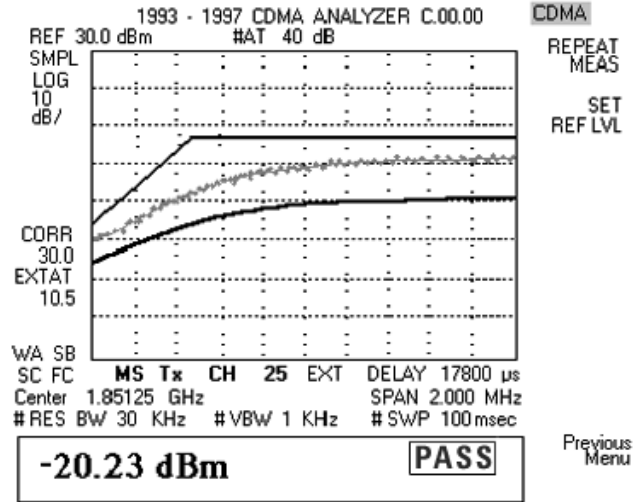

Figure 8. Spectrum Analyzer—Open Loop Response Test Results
14. A 20 dB step change of the test set's power will trigger the time response test. Figure 8 shows the results of a 20 dB decrease in the test set's transmitted power. Note that PASS or FAIL is displayed in the lower right corner.
NOTE: The **REPEAT MEAS** softkey on the spectrum analyzer can be used to reinstate the open loop test (see Figure 8). However the open loop test will automatically reset for another measurement, so this softkey does not have to be pressed.